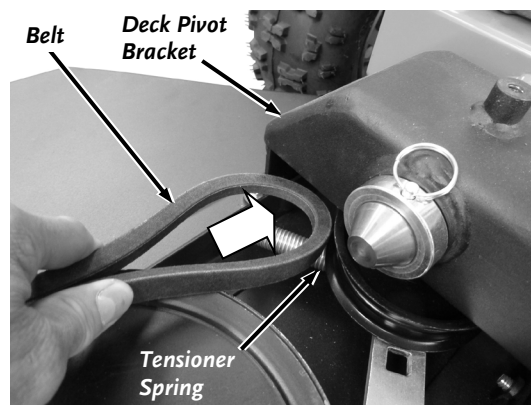

Figure 30
5. To install a new Belt, insert the belt over the Tensioner Spring and through the inside of the Deck Pivot Bracket (**Figure 30**).